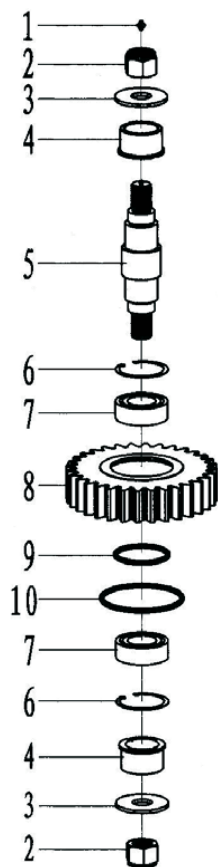

Fig.6
7.6 Assembly of big idle gear (Fig.6,Table6)